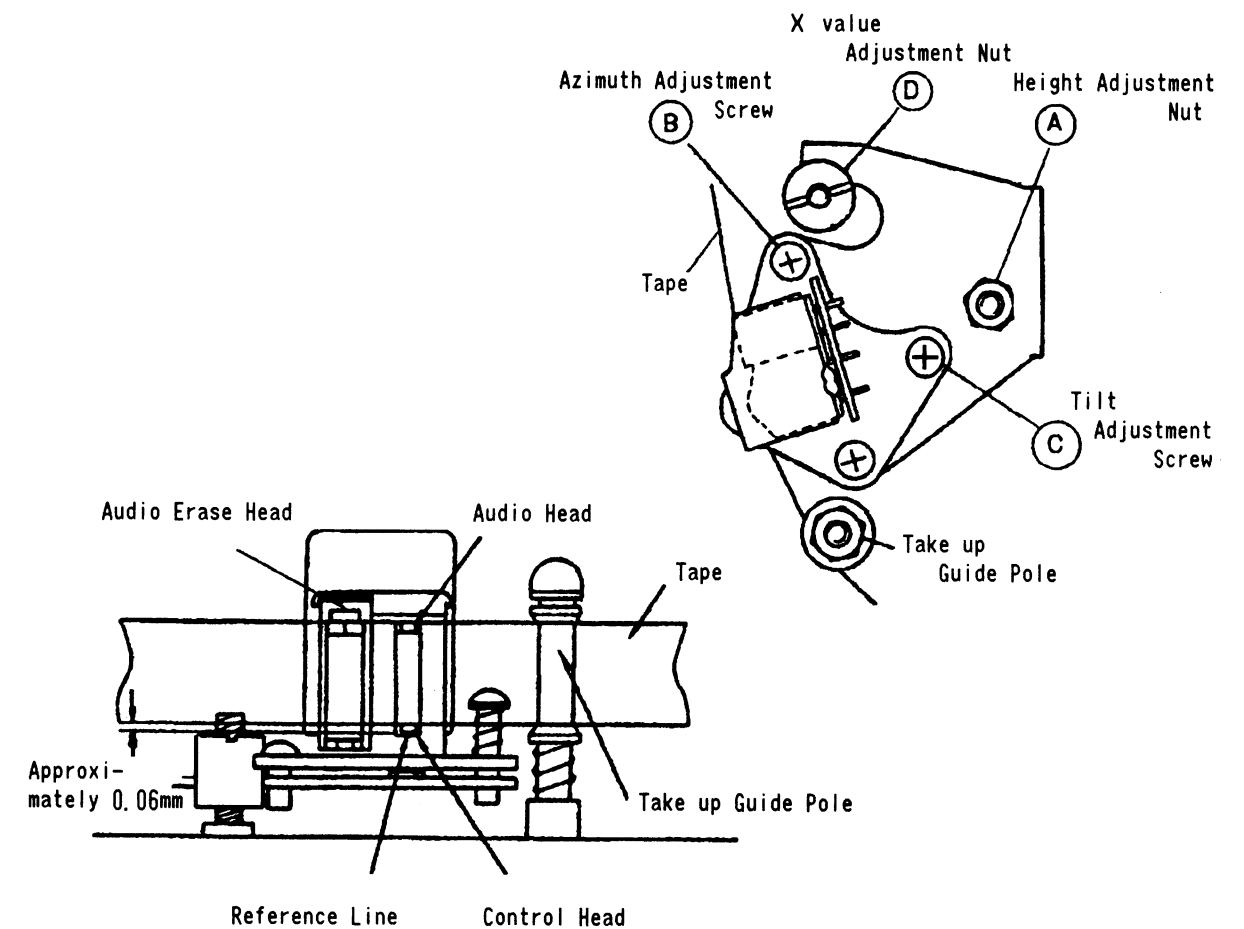
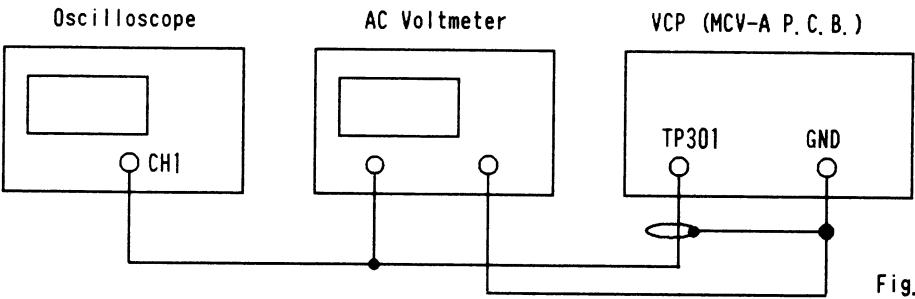

Fig. 7
Fig. 13
2. Adjust the height of the edge of the audio track on the audio control head by using the height adjustment nut (A) and the tilt adjustment screw (C) so that the tape transport is smooth at the take-up guide pole. Align the audio control head height. (Refer to Fig. 7.)
1. Connect the equipment as shown in Fig.13.
2. Confirm that the tape running between the take-up guide roller and the audio control erase head has no slack. If the tape has slack, take it up by turning the tilt adjustment screw ③. Then readjust GUIDE ROLLER HEIGHT in section 2 and the X value in section 4.
3. After confirming on the oscilloscope that a 1 kHz audio signal is being output by playing back the test tape, adjust the height adjustment nut ① so that the AC voltmeter's reading is brought to its maximum level.
4. Adjust the azimuth adjustment screw ② so that the AC voltmeter's reading is brought to its maximum level.
2. After confirming on the oscilloscope that an audio signal is being output by playing back the test tape, adjust the azimuth adjustment screw ⑧ so that the AC voltmeter's reading or osilloscope waveform is brought to its maximum level.
Note: Fix Tilt adjustment screw ⑨ with lock paint after readjustment (Refer to Fig. 7).